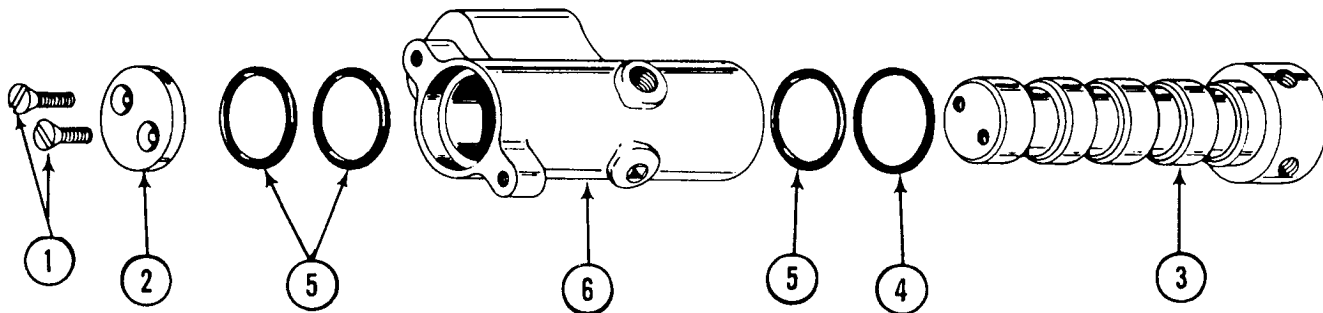

FIGURE 22. ROTARY VALVE (Exploded View)
Refer to Figure 22. Remove the two taperhead capscrews (1) and remove bolting plate (2). Remove rotor (3) and remove felt washer (4) from rotor. Remove the five "O" rings (5) from grooves in bore of valve body (6).